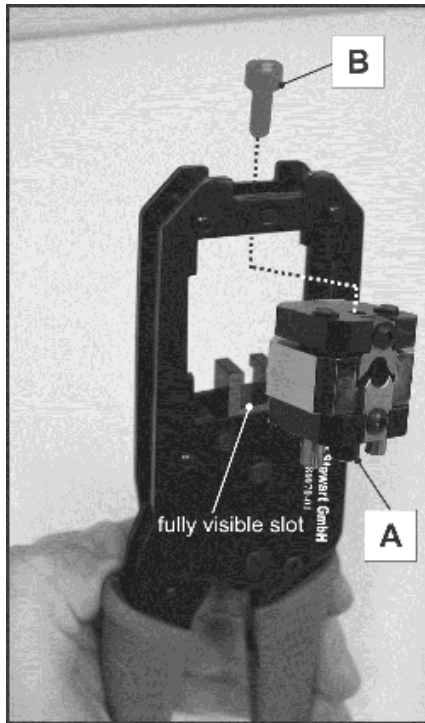

Fig.1.
- In order to place the dies-set in the toolframe, close the handles just as enough as to make the slot on pusher fully visible (do not close it fully) (Fig.1).